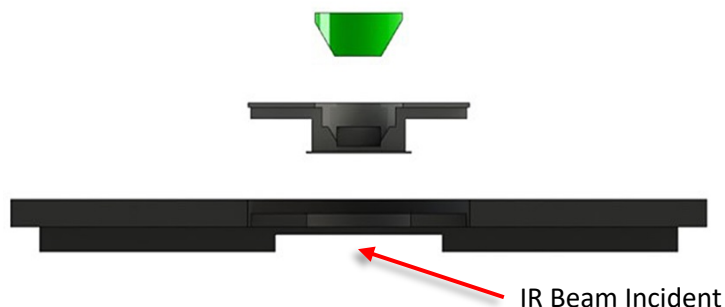

Figure 6. Orientation of FAC in crystal holder in top plate
IMPORTANT: When placing the crystal holder with the FAC in the top plate, be sure the FAC is oriented correctly to allow for incident light through the FAC (Figure 6).
5. Carefully attach the cell to the VeeMAX III Jackfish top plate (round opening to accommodate the Jackfish Cell) using the six screws (8-32) provided. These screws require a 9/64" hex wrench. Be sure to stabilize the cell and evenly tighten the screws in a star pattern to distribute pressure evenly while tightening (Figure 6). Tighten each screw with a 1/4 turn on each rotation to ensure an even distribution of pressure.